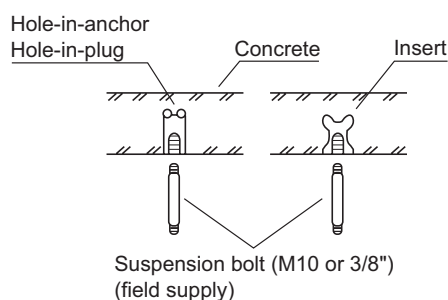
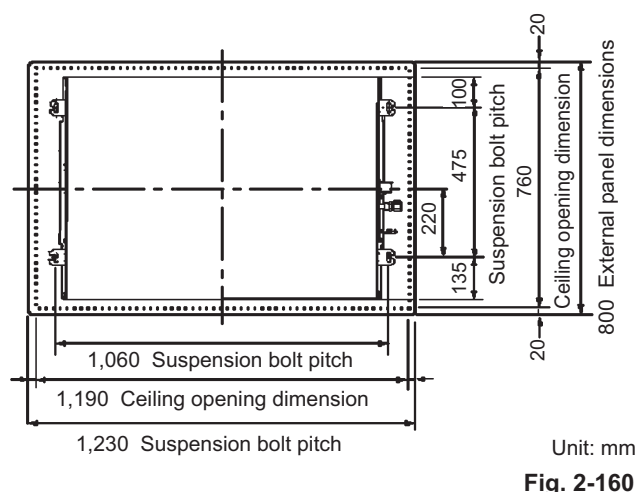
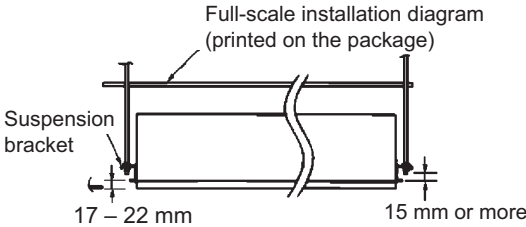
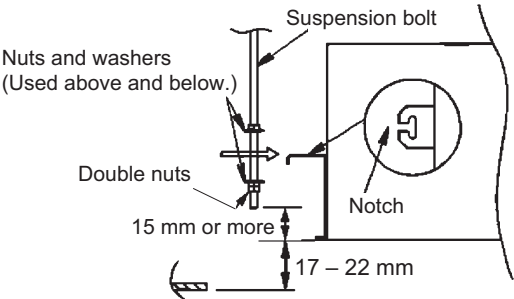

Fig. 2-162
Fig. 2-160
Fig. 2-165
Fig. 2-166
- (1) The measurements of the ceiling hole and suspension bolt positions should be as shown in Fig. 2-160. The length of the suspension bolts should extend a minimum of 15 mm beyond the bottom of the unit suspension bracket. Refer to Fig. 2-165.
- (2) Use the full-scale installation diagram (printed on the package) to determine the suspension bolt pitch. The positional relationships between the suspension brackets and the unit, and between the brackets and the ceiling panel, should be as shown in Figs. 2-160 & 2-161.
- (3) Depending on the ceiling type:
- Insert suspension bolts as shown in Fig. 2-162
- (4) Cut the ceiling material, if necessary. (Figs. 2-160 and 2-161)
- (1) When suspending the unit, attach gauges A and B (with packaging pad) to the indoor unit suspension brackets using the supplied M5 screws (2 for each bracket) to create the ceiling opening dimensions.
- (2) Attach the special washers (supplied) and nuts (field supply) to the suspension bolts (4 locations).
- The length of the suspension bolts should be such that there is clearance of at least 15 mm below the bottom of the bracket, as shown in Fig. 2-166. If the suspension bolts are too long, they will contact the ceiling panel and louver motor cover, making installation impossible.
- (3) Thread the 3 hexagonal nuts and 2 washers (field supply) onto each of the the 4 suspension bolts as shown in Fig. 2-166. Use 1 nut and 1 washer for the upper side, and 2 nuts and 1 washer for the lower side, so that the unit will not fall off the suspension lugs.
- (4) The indoor unit should be suspended from the suspension bolts (Fig. 2-166) so that the distance between the bottom of the suspension lug and the bottom surface of the ceiling is 17 to 22 mm. (Fig. 2-165) Clearance between the indoor unit and the bottom surface of the ceiling is adjustable after the ceiling panel is attached to the unit. Use gauges A and B to adjust the height of the indoor unit as shown below.